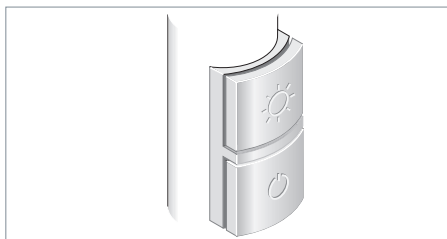

Fig. 15: Operating element with synchronously operated light (optional).
- Operating element with synchronously operated light (optional), see Fig. 15
- Press the upper or the lower switch, see Fig. 15.
- Press the lower switch, see Fig. 15.
- Press the upper switch and keep it depressed, see Fig. 15.